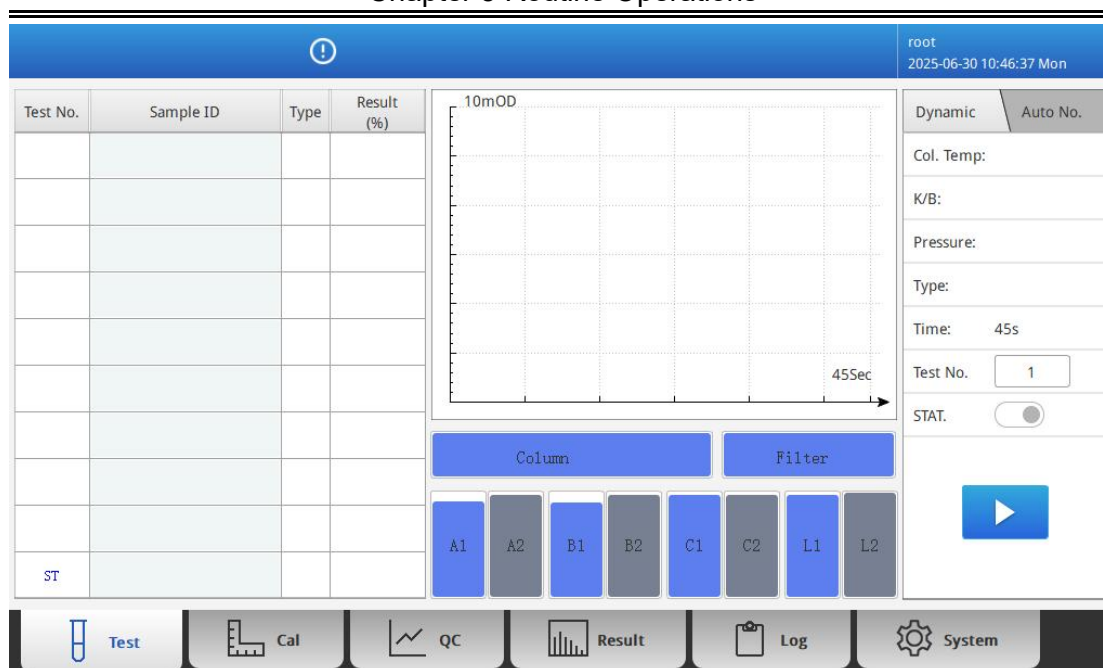

Fig. 5-7 View of Test Interface
3) Return the Test interface, click the “**STAT.**  ” button to turn on the STAT. function when the batch sampling test is running. A prompt will display as **Fig 5-7**.